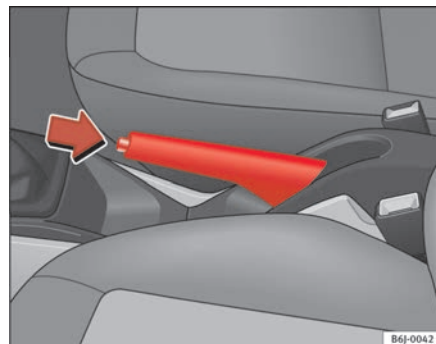

Fig. 104 Handbrake between the front seats
- Pull the handbrake lever up firmly ⇒ **fig. 104**.
- Pull the lever up slightly and press the release knob in the direction of the arrow ⇒ **fig. 104** and guide the handbrake lever down fully ⇒ **⚠**.